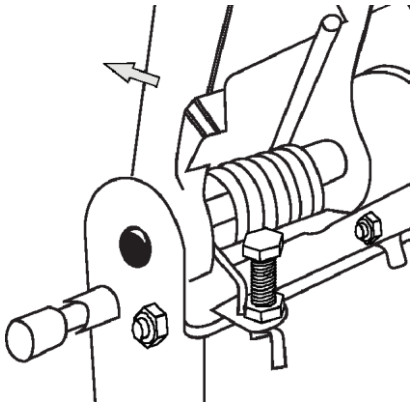

Fig 1
1. Lift the swing arm upward as far as it will go. (Fig 1)
⚠ WARNING: Reset the depth stop as shown in Fig. 1. The new wheel will be larger and will damage the work surface if the depth stop is not readjusted.